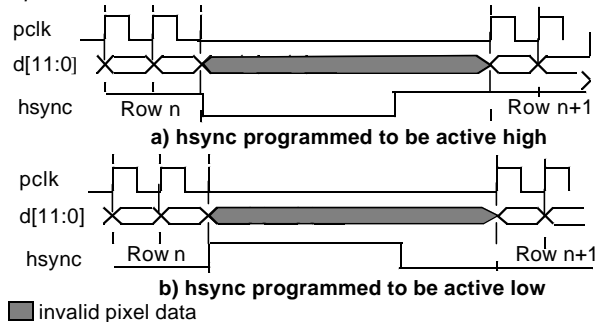

Figure 38. hsync in Pulse Mode
- Pulse mode should be used when the pixel clock, *pclk*, is programmed to operate in *data ready mode*. In pulse mode the *hsync* output pin will produce a pulse at the end of each row. The width of the pulse will be a minimum of four *pclk* cycles and its polarity can be programmed as shown in Figure 38. The *hsync* level is always synchronized to the active edge of *pclk*.